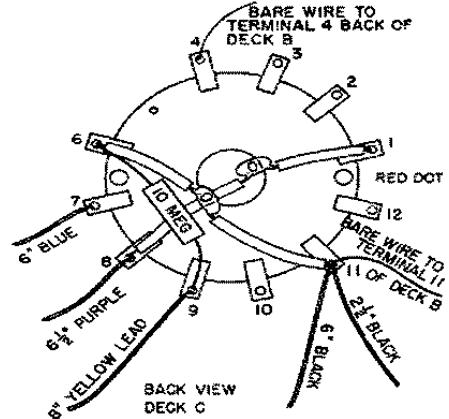

Figure 19 - Wiring on back of deck C.
Next, you will wire two capacitors and a resistor on the back of deck C. Refer to Fig. 19 for the placement of these parts. You will need the following parts:
- () Connect one end of a 0.01- μ F disc capacitor to terminal 1 on the back of deck C. Connect the other end of this capacitor to terminal 8 on the back of deck C. Position the capacitor as shown in Fig. 19. Solder terminal 1 on the back of deck C.
- () Connect one end of a 10-megohm, 1% resistor to terminal 6 on the back of deck C. Connect the other end to terminal 9 on the back of deck C. Position the resistor as shown in Fig. 19. Solder terminal 6, back of deck C.
- () Connect one end of the other 0.01- μ F disc capacitor to terminal 6, back of deck C. Connect the other end of the capacitor to terminal 11, back of deck C. Position the capacitor as shown in Fig. 19. Solder terminal 6, back of deck C.